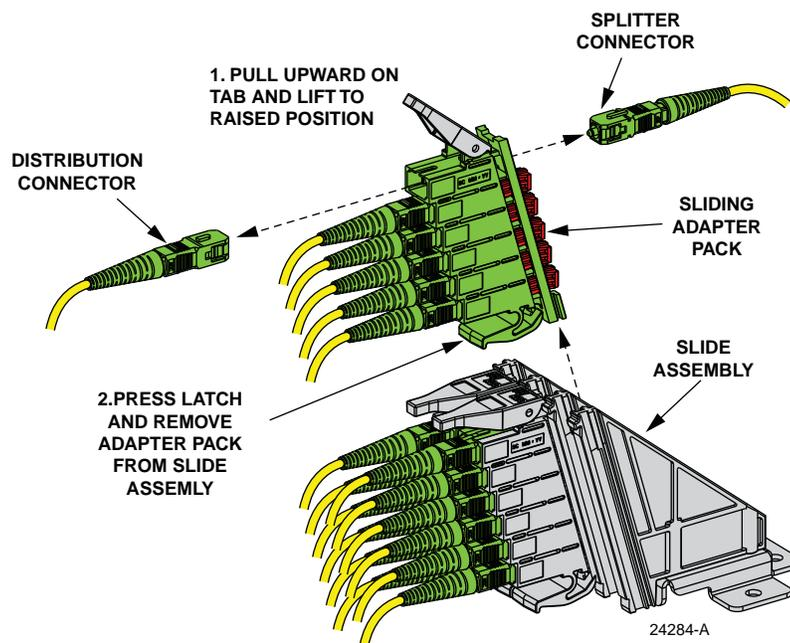

Figure 65. Removing a Damaged Sliding Adapter Pack
1. Locate the sliding adapter pack with the damaged adapter as shown in Figure 65.
6. Disconnect the first pair of distribution and splitter connectors (see Figure 65) from the broken sliding adapter pack.